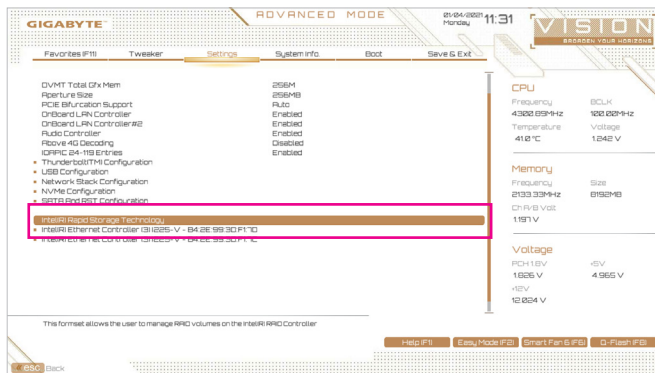

Figure 2
After the system reboot, enter BIOS Setup again. Then enter the **Settings\IO Ports\Intel(R) Rapid Storage Technology** sub-menu (Figure 2).